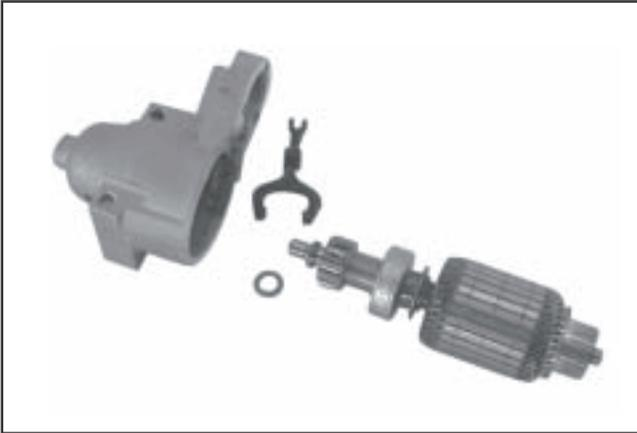

Figure 8-37. Armature and Lever Removed.
8. Take out the drive lever and pull the armature out from the drive end cap. See Figure 8-37.
9. Remove the thrust washer from the armature shaft. See Figure 8-37.